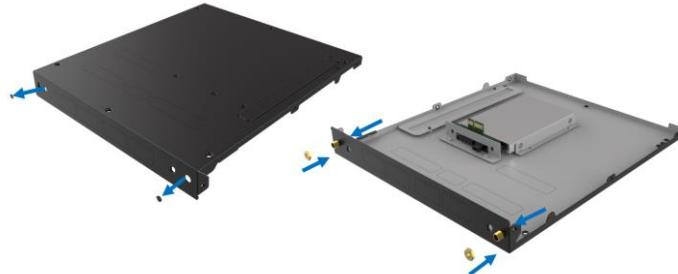

Figure 3-7: Install External Antenna Connector
Step 1: [Optional] Install an external antenna if necessary. You need to remove the knockouts first, and then install the antenna connectors into the knockout holes (Figure 3-7).